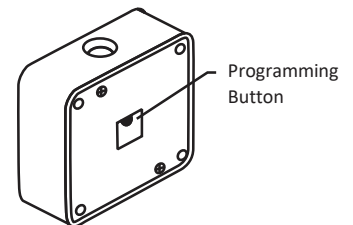

Figure 8
If you need to change the program on the programming card, initialize the locks. In the case of the 1242, you will need to initialize both locks (you can use the same programming card), then program your keys to both using the newly initialized programming card. To do this, you will need to detach the lock from the shelf by taking out the 4 screws holding the lock in place. The Programming Button is behind the lock. See Figure 8.
- Z1. Press the programming button on the back of the lock. See Figure 8.